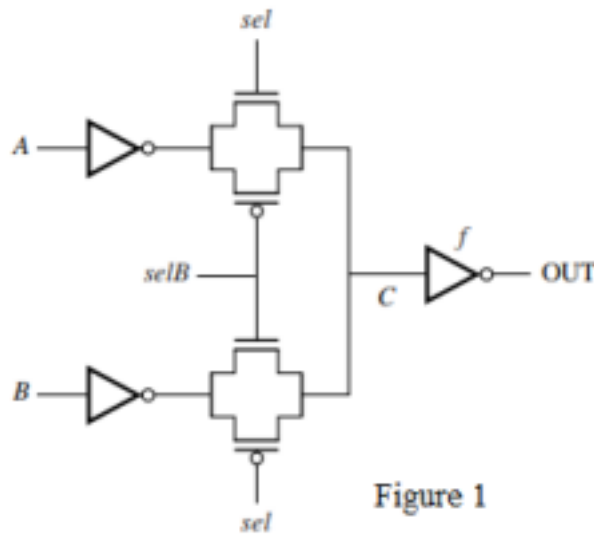

Figure 1
3. For the circuit shown in Figure 1, assume that the transmission gates are all $4\lambda:2\lambda$ and that the inverters driving the transmission gates have PMOS transistors that are $8\lambda:2\lambda$ and NMOS transistors that are $4\lambda:2\lambda$, where $\lambda = 0.1\mu\text{m}$. The output inverter drive a 50 fF load. The output inverter is f times larger than the input inverters. Answer the following questions (15 points, 3 points each)